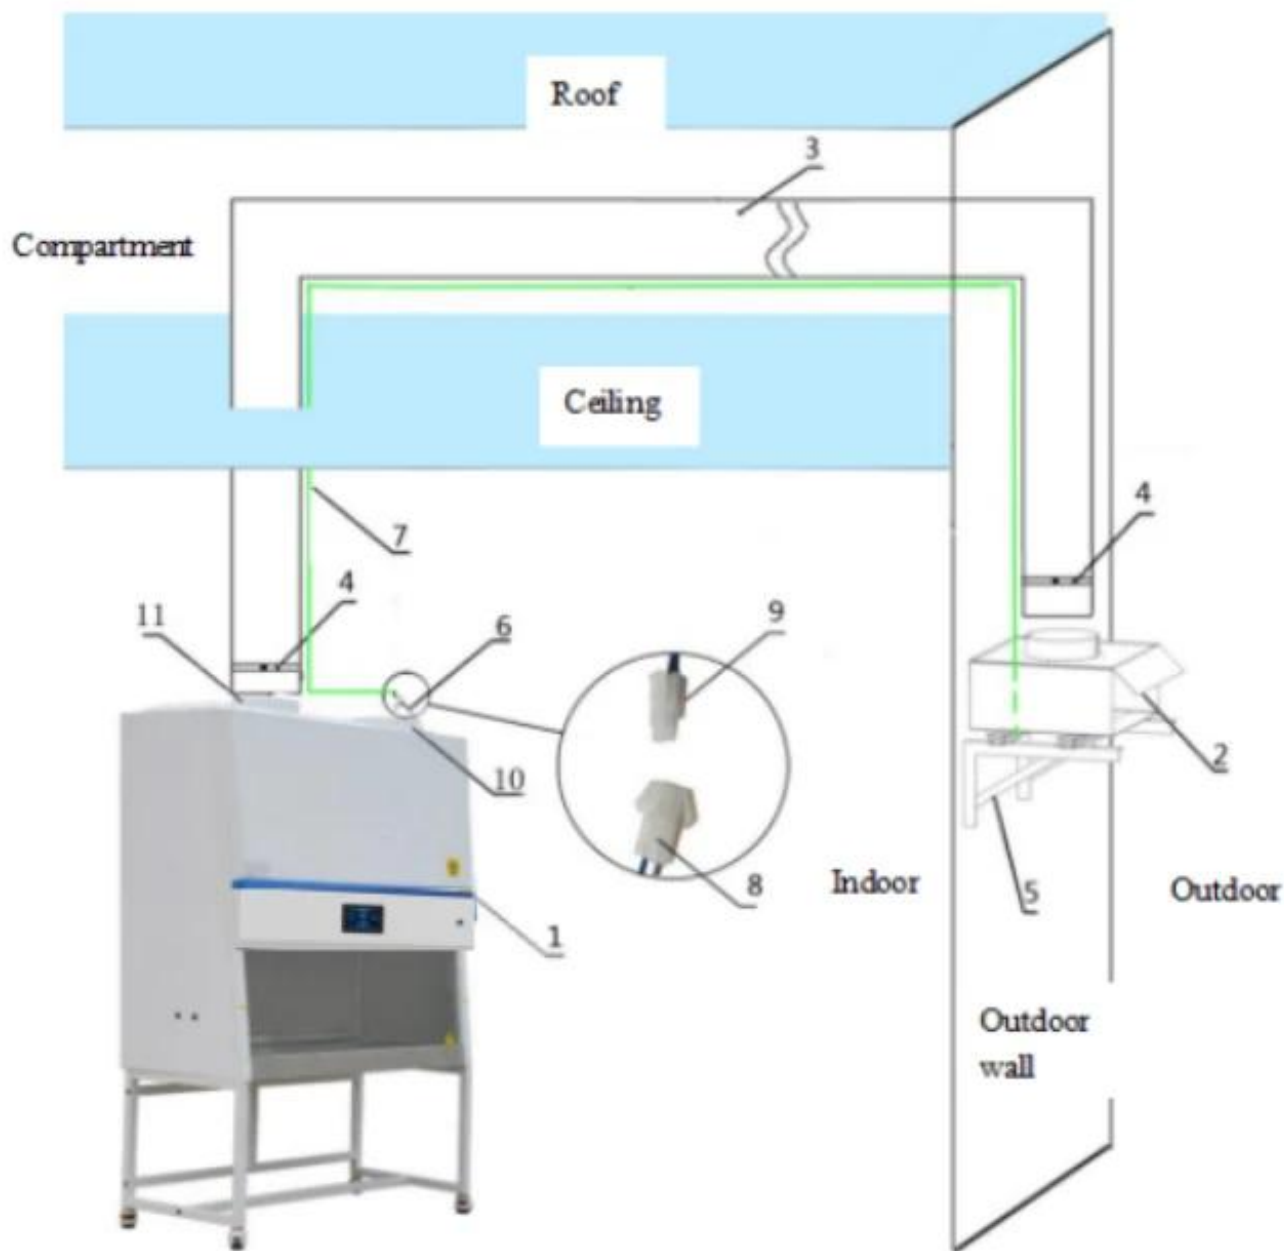

Fig 2
- (1) After connecting the host to the base, place it in the original position.
- (2) Install the external fan mounting bracket on the outdoor wall adjacent to the safety cabinet (must be a solid wall) (Please carefully compare the mounting holes on the outer fan when installing two external fan mounting brackets), use expansion screws The outer fan mounting bracket is fixed on the outdoor wall surface.
- (3) Place the external exhaust fan on the outer exhaust fan mounting bracket, and use the M8*25 hex head bolt, flat washer 8, spring washer 8, and M8 nut in the accessory box to fix the outer exhaust fan to the outer exhaust fan mounting bracket (to ensure Safety, please operate by professional installers).
- (4) Pull out the pipe and pull one end into the air outlet of the safety cabinet, as shown in Figure 2, tighten the pipe clamp.
- (5) Pass the other end of the pipe through the ceiling (requires opening), through the wall or window to the outside, and insert the suction fan of the outer exhaust fan of Figure 2 to tighten the pipe clamp.
- (6) Extending the control line of the external exhaust fan into the room, and connecting the outlet of the external exhaust fan control line to the control line of the external exhaust fan at the top of the main unit.